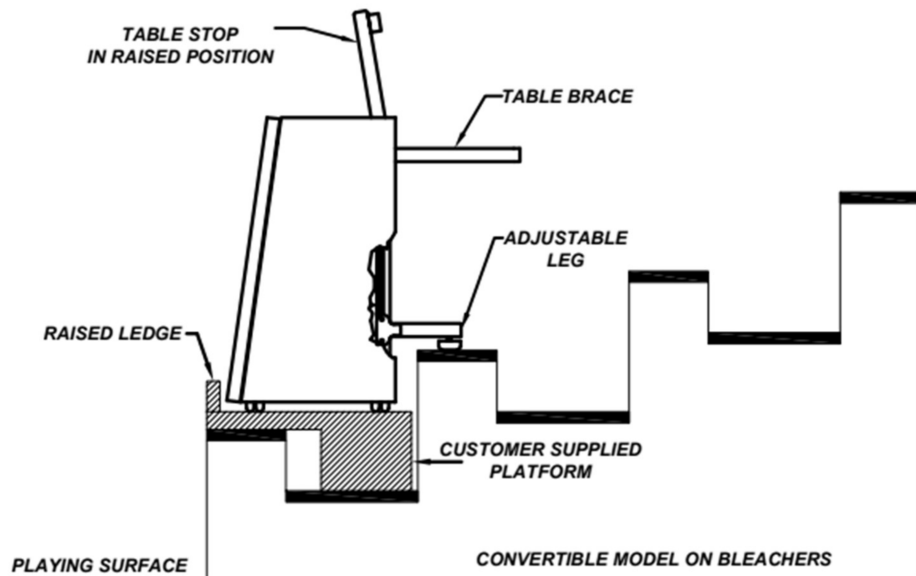

Figure 4
3. Roll the scoring table to the bleachers, lift the table top all the way up and swing out the table legs on both sides. Lower the adjustable legs so they rest on the first bleacher seat. Lift the table brace to engage the adjustable leg. Lower the table top on the table braces making sure that the table braces are secured into the locks on the lower surface of the table top. (See **Figure 4**)